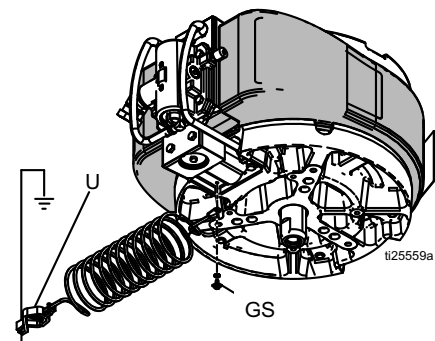

Fig. 3
XL10000™ Pumps: See figure 3. Verify that the ground screw (GS) is attached and tightened securely to the air motor. connect the clamp (U) of the static ground cable (H) to a true earth ground. For a ground wire and clamp, order part No. 244524.